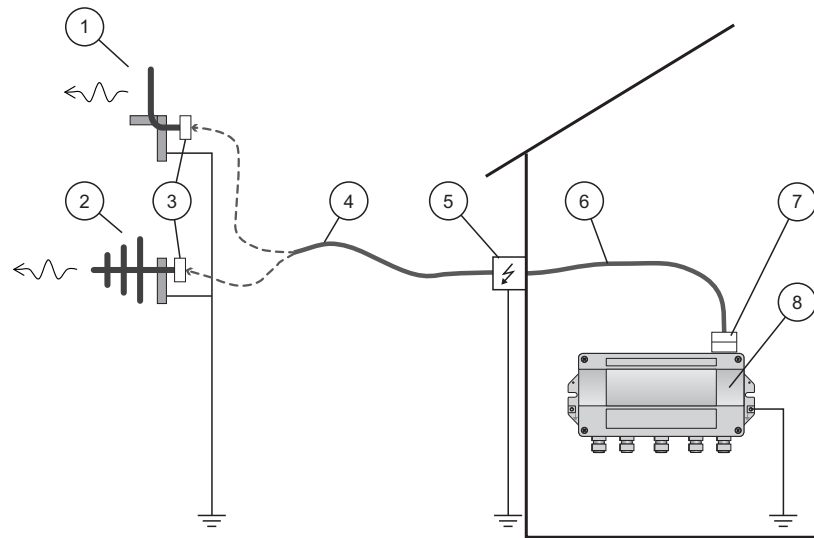

Fig. 4-6: Installation of an remote antenna
The antenna must be connected to the Fieldgate SWG70 by means of coaxial cable. A surge arrester provides protection against lightening strikes. The surge arrester must be installed directly on the Fieldgate SWA70 antenna connection. Install the components according to Fig. 4-6.
- Install the components according to Fig. 4-6